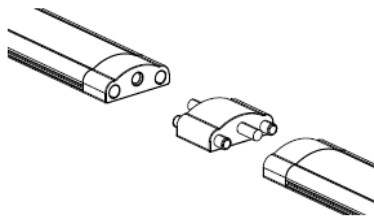

Fig. 2.1: Extension with a connector
2. It is able to extend the LED light cabinets by using the connector plug or connection cable (see *Fig. 2.1 and 2.2*)